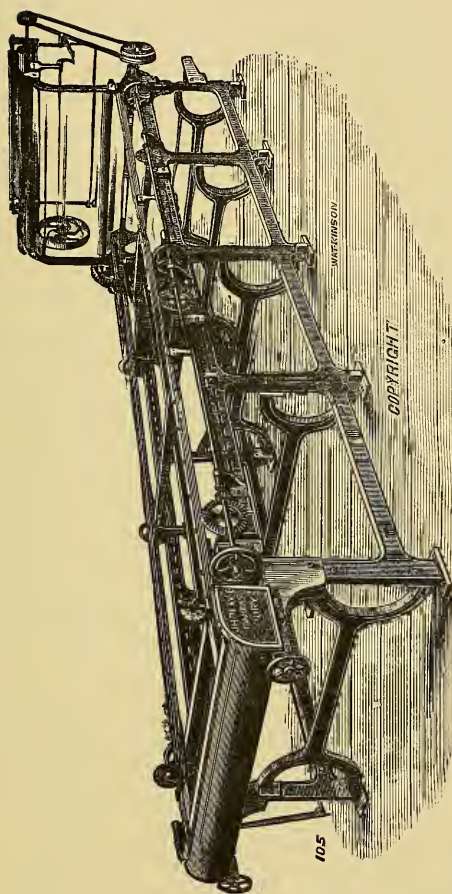

Fig. 68.—Pin-Tentering and Stretching Machine.
*Coloured cloths*, such as gingham, shirtings, and checks, must, in the first instance, be cleared of all loose threads, as far as is practicable, by shearing; the goods are then put through soap and water, with fuller’s earth, which brightens up the colours, then sized in a light solution of starch, having a very little soluble oil—about 1 part to 75 parts of starch; this softens the fabric, and gives a good clothly feel. The goods now require stretching out to the required width. This is a very difficult operation in many cases, because the warp threads shrink the most and allow the weft threads to lie closer together. If a piece of cloth is subjected to any degree of tension whatever, it will become longer and narrower. Some pieces will finish longer or shorter than the average allowance, from slack or tight weaving. Any fabric in cotton that is singed, scoured, and hot-pressed, must, in the nature of the fibres, undergo some stretching and, in order to be sheared, the cloth must be drawn tightly through the machine; the greatest amount of shrinkage takes place in the drying machines. When it is imperative that the width be retained, the stretching machine (see Fig. 68) will widen it as it is passing through; and in the *best makes* of this class of machinery the amount of widening is placed under the control of the finisher.